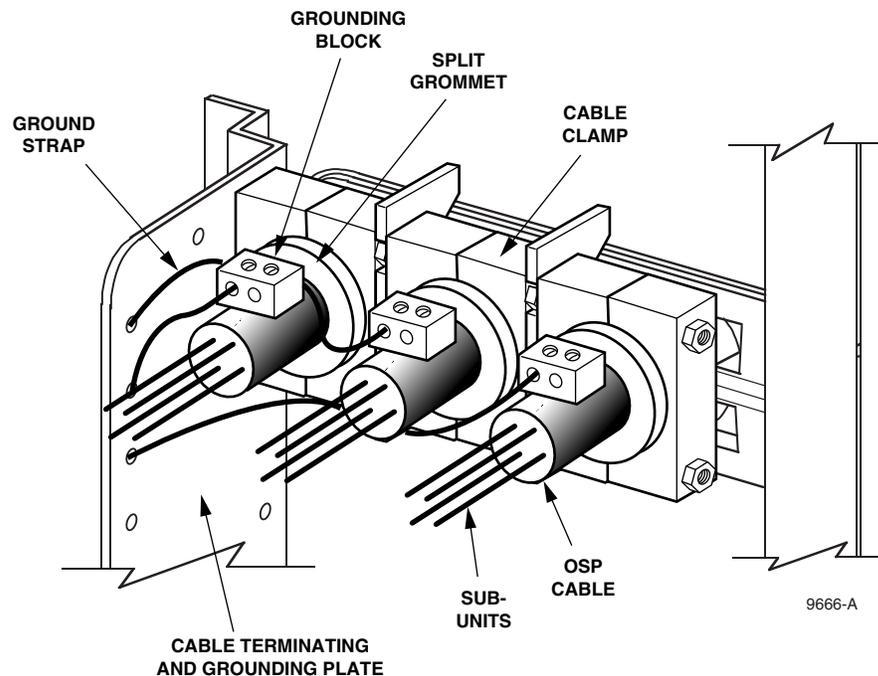

Figure 3. Three-Tier Clamp
5. Connect the ground straps to the cable terminating and grounding plate as shown in Figure 3.
4. Connect the ground straps to the cable terminating and grounding plate as shown in Figure 3.